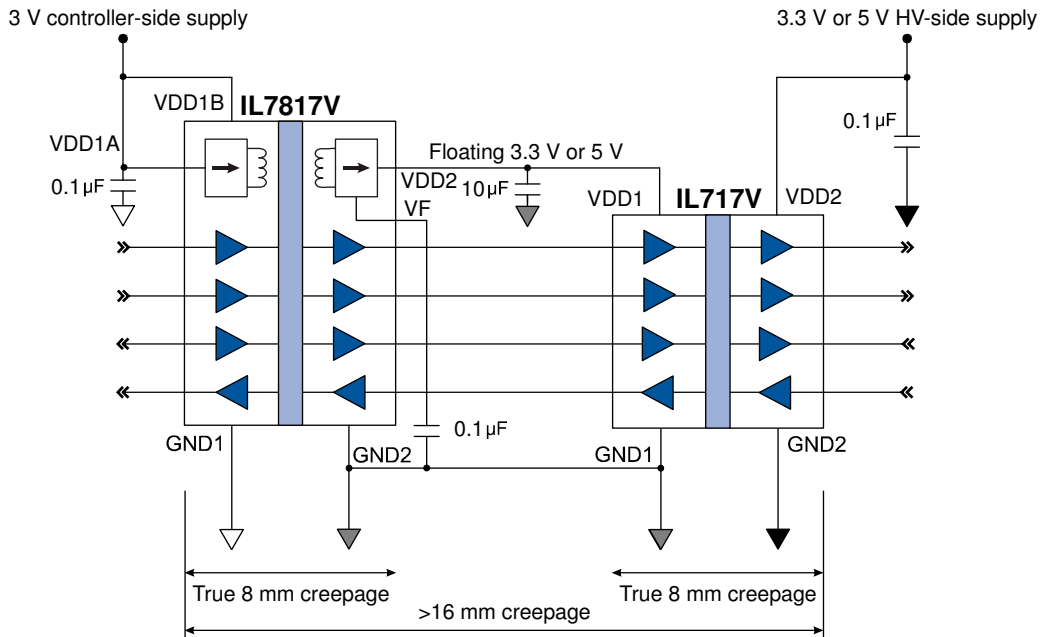

Figure 24. 16 mm creepage with two isolators.
- Added two-wire ADC application circuit (Fig. 17), asynchronous parallel application circuit (Fig. 20), and 16 mm creepage (Fig. 24).